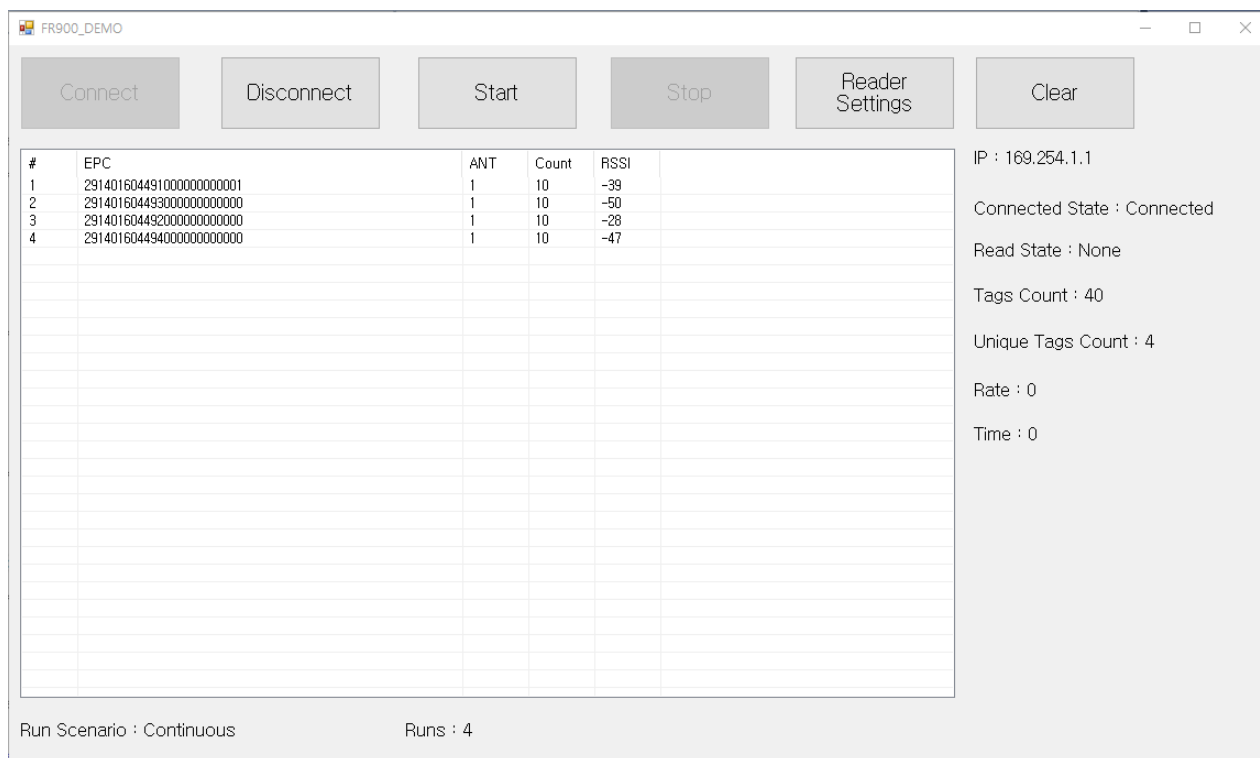

Figure 5.5 Demo App Reader Settings Connection and Start
3. Test your Reader installation. Place one or more tags in the read-zone of one or more of the attached antennas. On the DemoApp screen, click Connection and Start. Tag reads appear under Inventory, as shown in Figure 5.5.